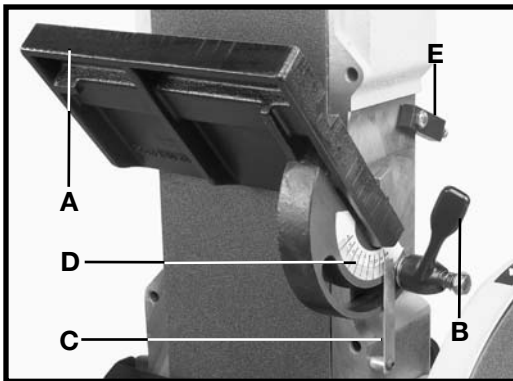
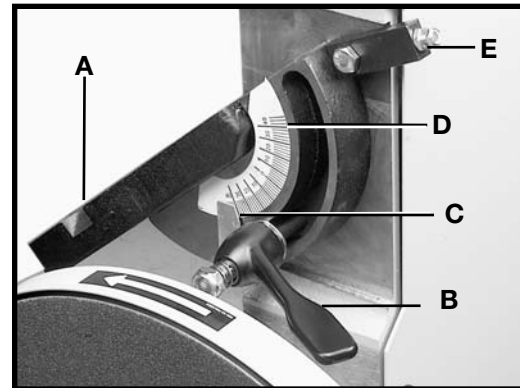

Fig. 23
Fig. 24
1. The table (A) can be tilted 45 degrees up (Fig. 23), or 45 degrees down (Fig. 24). To tilt the table, loosen the lock handle (B), tilt the table to the desired angle, and tighten the lock handle (B). The degree of tilt is determined by the pointer (C) and scale (D) Figs. 23 and 24. **NOTE:** When tilting the table down (Fig. 24), rotate the stop (E) Figs. 23 and 24 out of the way.